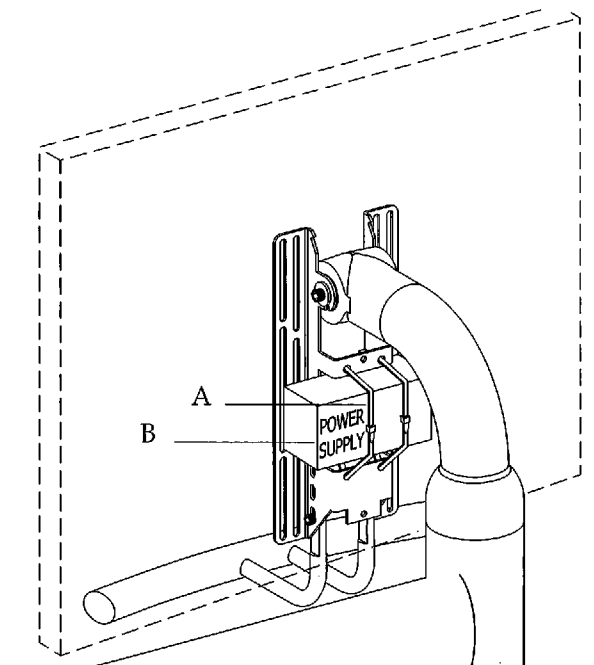

Figure 53. Installing the monitor power supply. (A) cable ties; (B) power supply
5. Attach the monitor power supply to the handle/bracket assembly with cable ties, and connect the monitor cables to the monitor (see Figure 53).